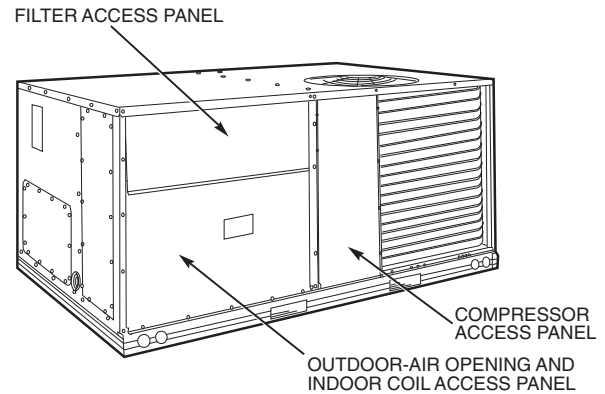

Fig. 13 — Typical Access Panel Locations
2. To gain access to the hood, remove the filter access panel. See Fig. 13.